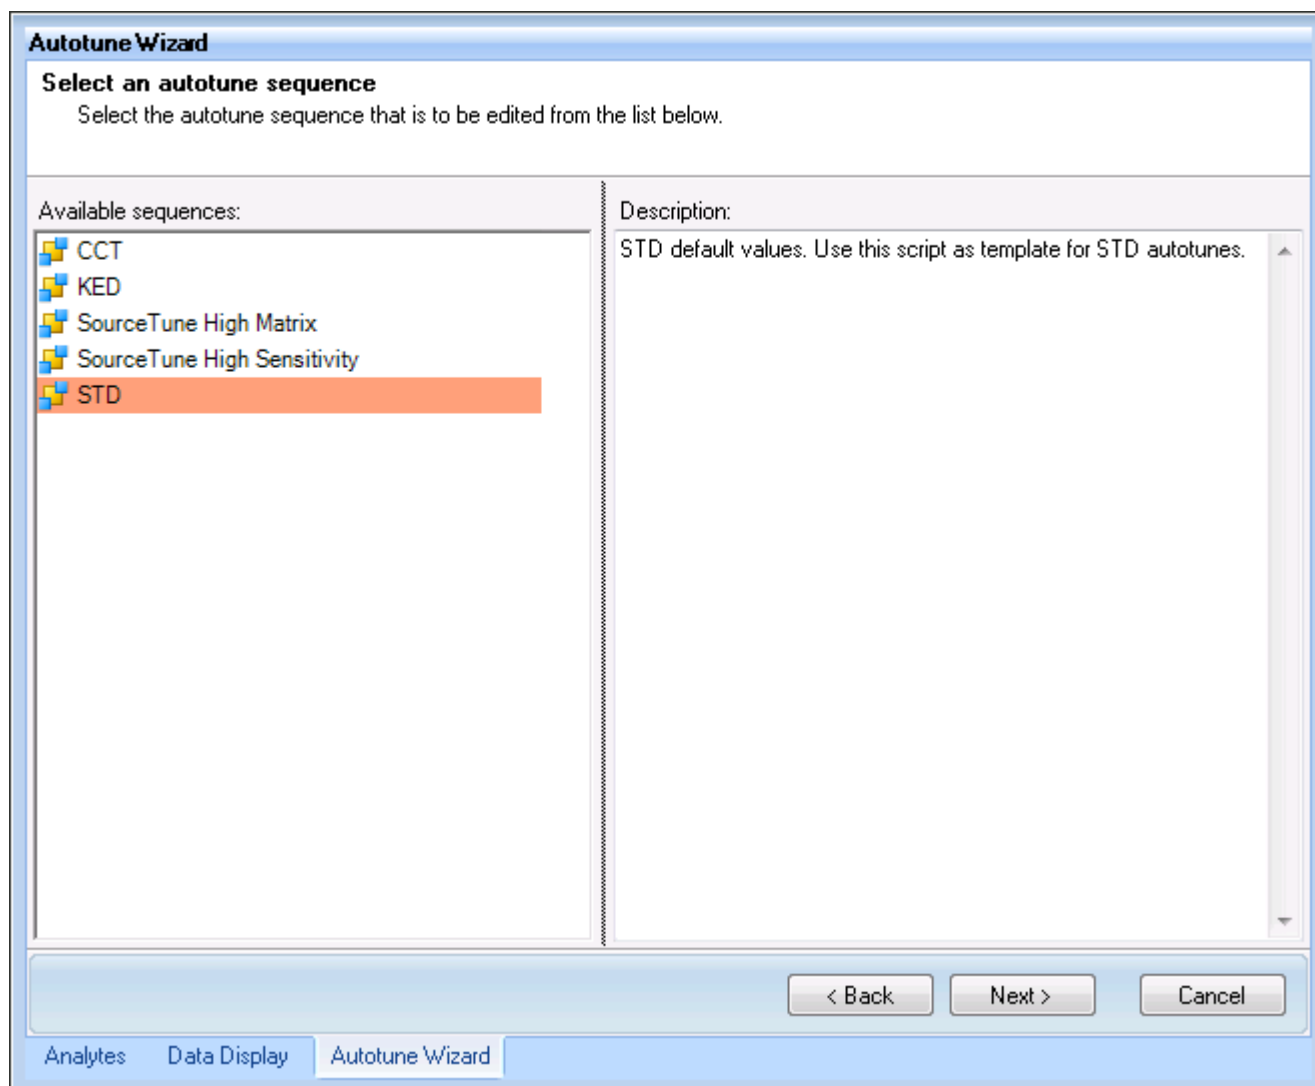

Figure 4-50. Select Autotune sequence in Autotune wizard
7. Select the autotune sequence to be edited from the list, see Figure 4-50.